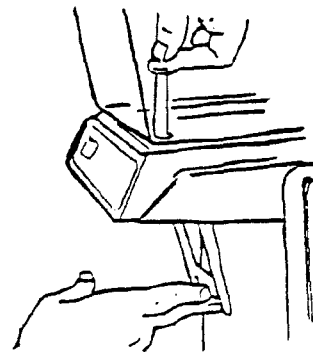

Figure 7
- d. Carefully insert pinch tube into bowl spout opening and on into lower opening of handle support spout. make sure end of tube does not get caught on edge above handle support spout opening, pull end of tube for final setting into bowl spout seat. make sure tube is free of wrinkles and extends below support spout about 1/4 inch (see Fig. 7).